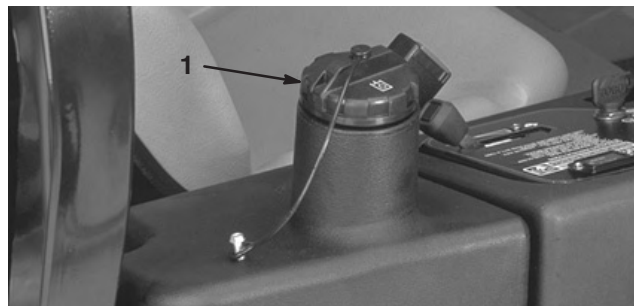

Figure 15
2. Clean the area around the filler neck and cap of the hydraulic tank (Fig. 15). Remove the cap.